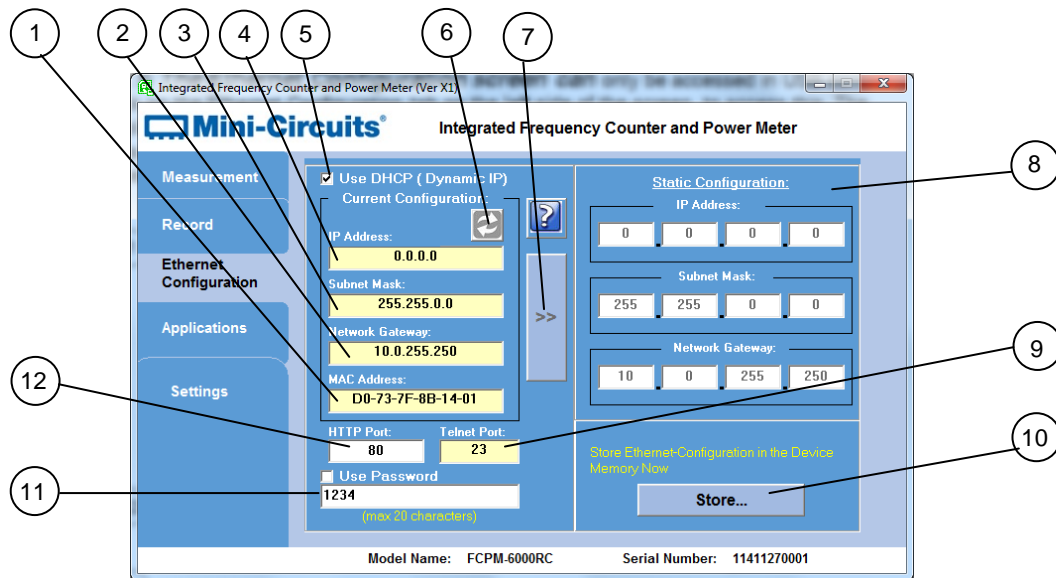

Figure 3.1.6: Ethernet Config. screen (showing factory default state)
3.1.6 **The Ethernet Configuration screen can** only be accessed in USB control. Click on the Ethernet Configuration tab on the left side of the screen, to access this. The display will shift to show the current Ethernet configuration. **Figure 3.1.6** shows the factory default of the FCPM-6000RC. If these settings fit your local network, you do not need to access the setup before connecting the FCPM-6000RC to the network.